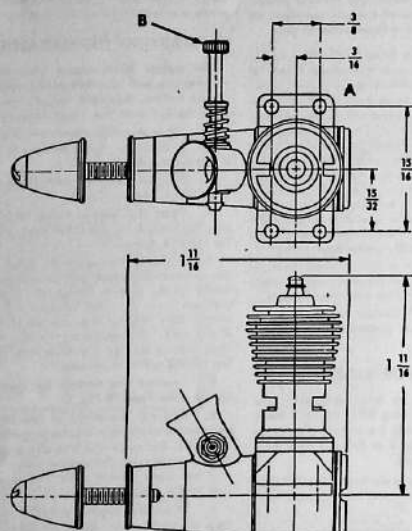
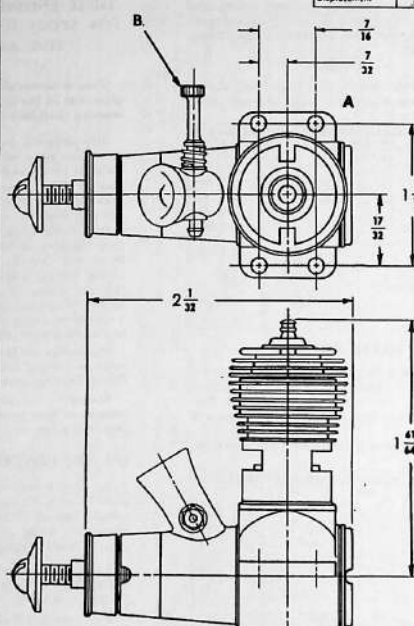
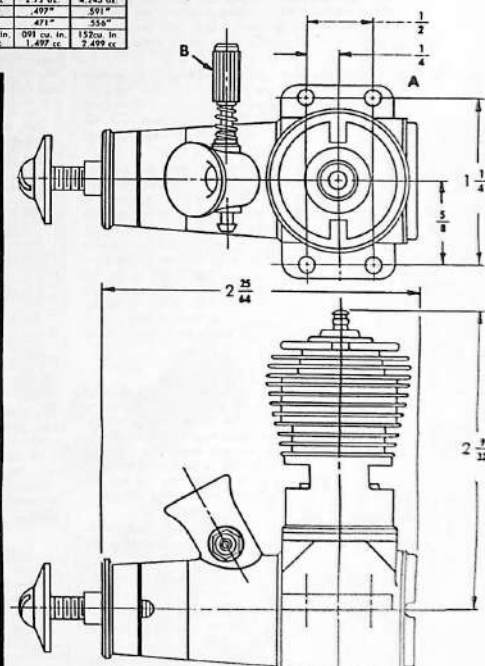

FIG. 2
FIG. 3
FIG. 4
1. Mount the engine in the plane, or if you want to give it some running first, mount it on a suitable mount. Do not hold the engine directly in a vise. Use A-Fig. 2, A-Fig. 3 or A-Fig. 4 as a template to drill mounting holes.
1. Close the carburetor needle valve, B-Fig. 2, B-Fig. 3, or B-Fig. 4, by turning it clockwise until it stops. Do not force it.